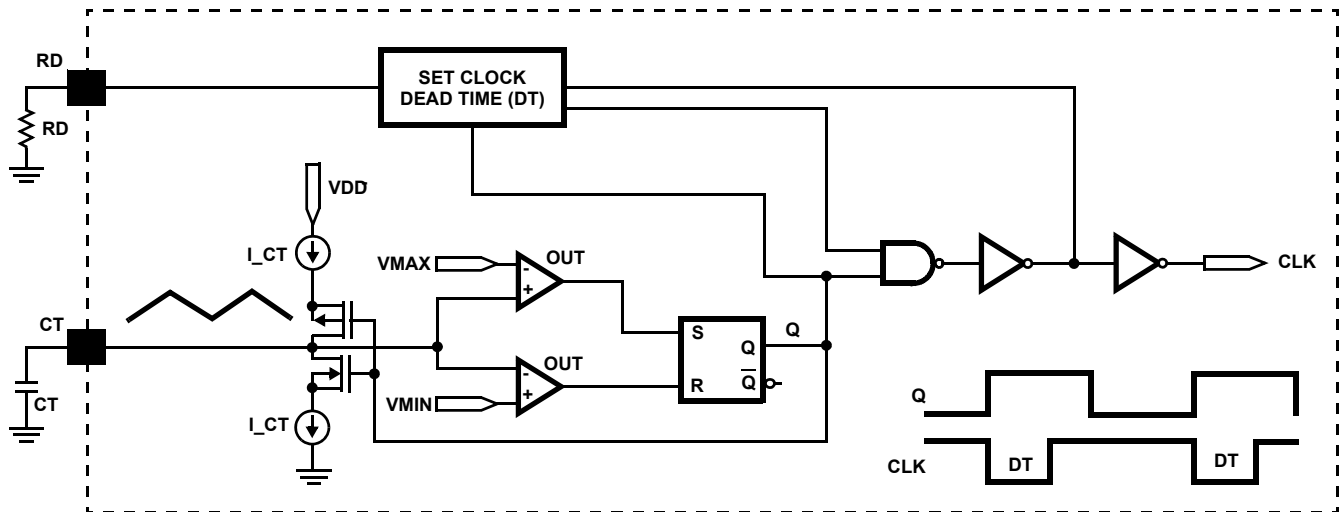
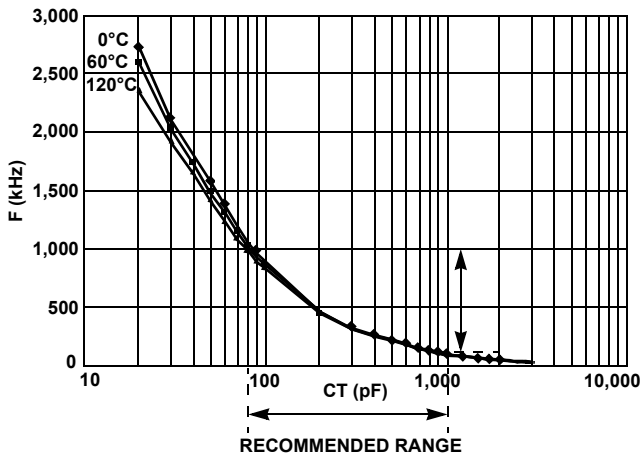

FIGURE 4. SIMPLIFIED CLOCK GENERATOR CIRCUIT
FIGURE 5. CT vs FREQUENCY
- This free-running oscillator is set by two external components as shown in Figure 4. A capacitor at CT is charged and discharged by two equal constant current sources and fed into a window comparator to set the clock frequency. A resistor at RD sets the clock dead time. RD and CT should be tied to the VSS pin on their other ends as close as possible. The corresponding CT for a particular frequency can be selected from Figure 5.